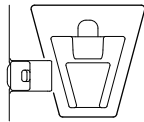
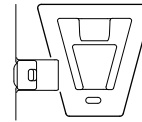

Fig. 3
Fig. 4
- The modules cannot be joined together if the V edge of the camera module is down. (Fig. 3) Push down the recording module release lever of the camera module to raise the V edge. (Fig. 4)